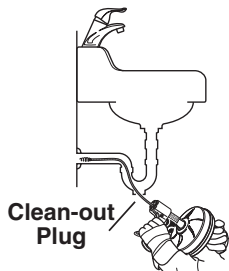

Figure 5
- For other sinks a clean out plug or trap may need to be removed (See *Figure 5*.) Be sure to place a container under the clean out or trap to catch any water that may come out.